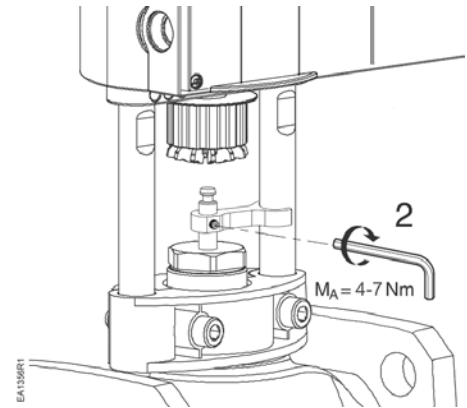

Figure 8.
5. Use a 2.5 mm hex wrench to tighten the anti-rotation device set screw to 35 to 62 in-lbs (4 to 7 Nm). See Figure 8.